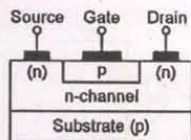
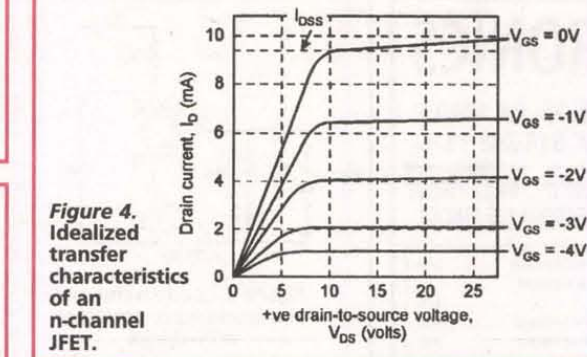

Figure 3.
Figure 4.
Figure 3 shows the basic form of construction of a practical n-channel JFET; a p-channel JFET can be made by transposing the p and n materials. All JFETs operate in the depletion mode, as already described. Figure 4 shows the typical transfer characteristics of a low-power n-channel JFET, and illustrates some important features of this type of device. The most important characteristics of the JFET are as follows:
(4). Note in Figure 4 that, for each V_{GS} value, drain current I_D rises linearly from zero as the drain-to-source voltage (V_{DS}) is increased from zero up to some value at which
Also note in Figure 4 that when V_{DS} is above the knee value, the I_D value is controlled by the V_{GS} value and is almost independent of V_{DS} , i.e., the JFET acts as a voltage-controlled current generator. The JFET can be used as a fixed-value current generator by either tying the gate to the source as in Figure 8(a), or by applying a fixed negative bias to the gate as in Figure 8(b). Alternatively, it can (when suitably biased) be used as a voltage-to-current signal amplifier.